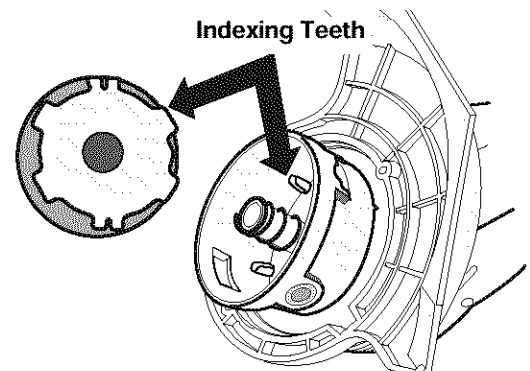

Fig. 12
4. Check the indexing teeth on the inner reel and outer spool for wear (Fig. 12). If necessary, remove burrs or replace the reel and spool.
4. Use a clean cloth to wipe the inner surface of the outer spool (Fig. 12).